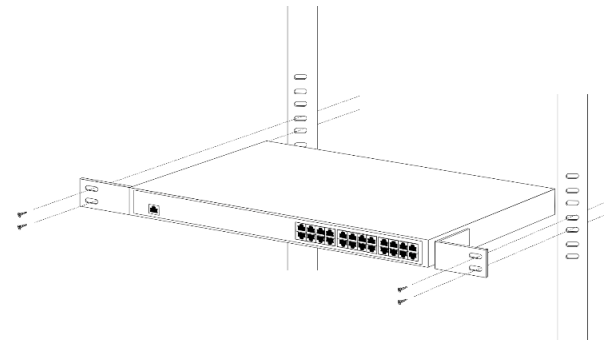

Figure 2-2: Mounting the PoE Switch in a Rack
Step 5: After the brackets are attached to the injector, use a suitable screw to securely attach the brackets to the rack, as shown in Figure 2-2.